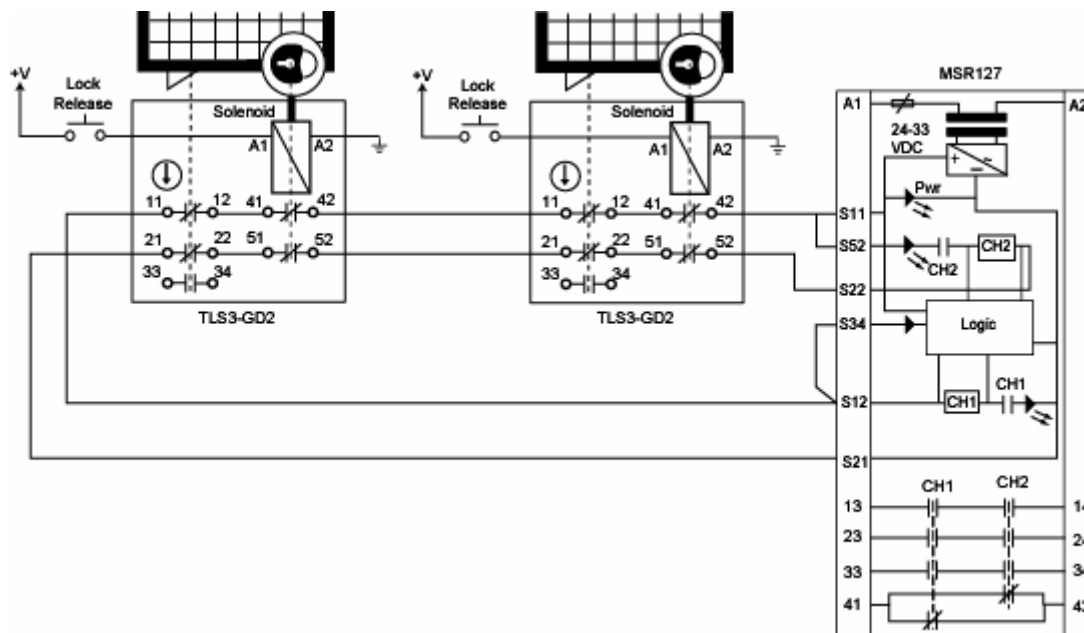

Figure 15. Multiple TLS3-GD2's
- i. The input circuit arrangement shown in Figures 15 meets the requirements of EN954-1 Category 3.